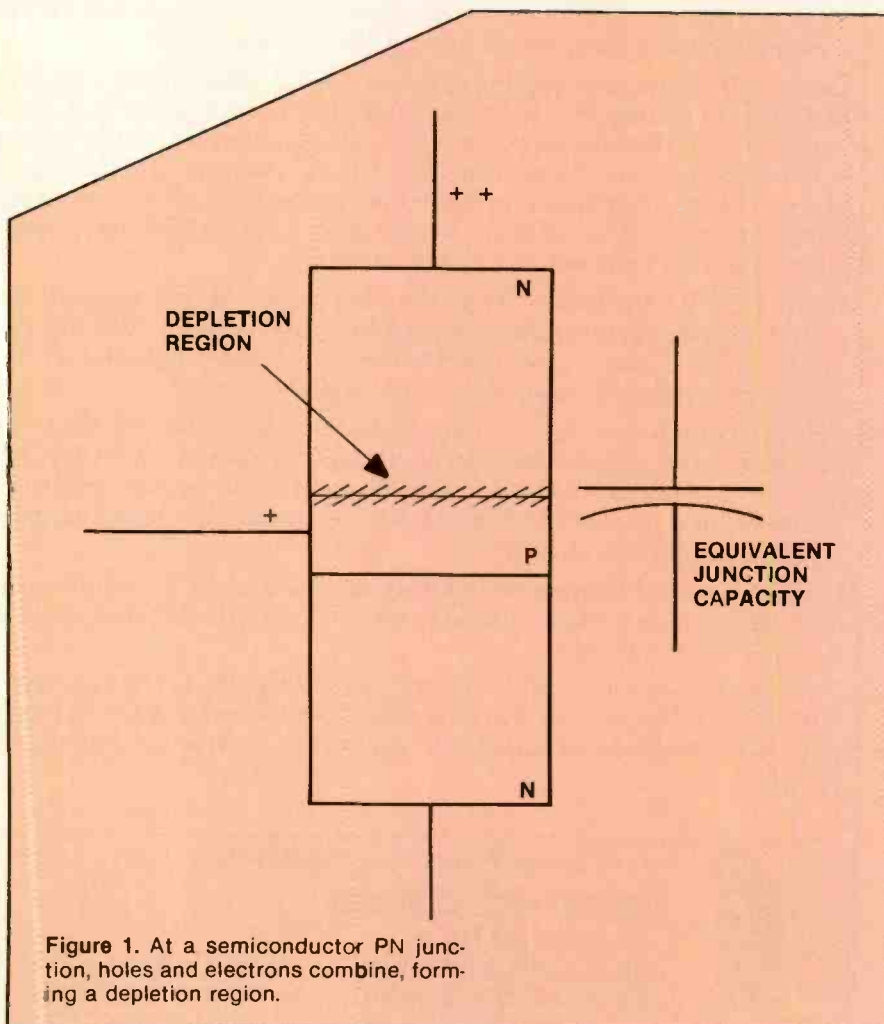

Figure 1. At a semiconductor PN junction, holes and electrons combine, forming a depletion region.
7. D. The circuit in Figure 1 is known as a *short circuit*. Trace the closed loop around the outside of the circuit.
The model of Figure 1 shows that there is a depletion (insulating) region between the base and the collector. During the normal operation of the transistor in an amplifier, the reverse bias increases this depletion region.